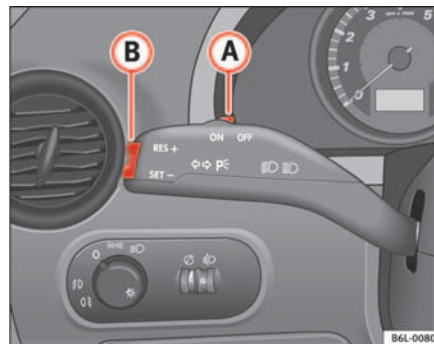

Fig. 102 Turn signal and main beam lever: switch and rocker switch for CCS
- Press the lower part **SET** of the rocker switch ⇒ fig. 102 **B** once briefly when you have reached the speed you wish to set.